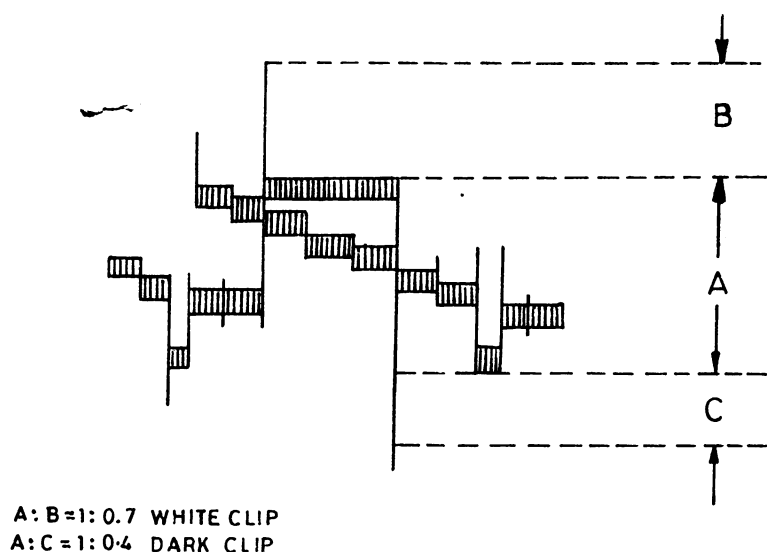

Fig. 11.13 White clip and dark clip adjustment wave forms
3. Now adjust the white clip control R 3019 and the dark clip control R 3011 on the video section so that the wave form becomes as shown in fig. 11.13.